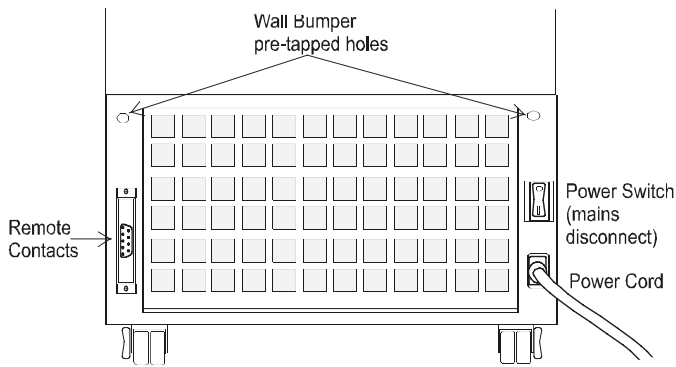

Figure 1-3
1.4 Installing the Wall Bumpers (Refer to Figure 1-3)
Install the bolts into the pre-tapped holes on the back of the compressor section. Install a neoprene cap on each bolt. Refer to Figure 1-3 for the locations of the pre-tapped holes.